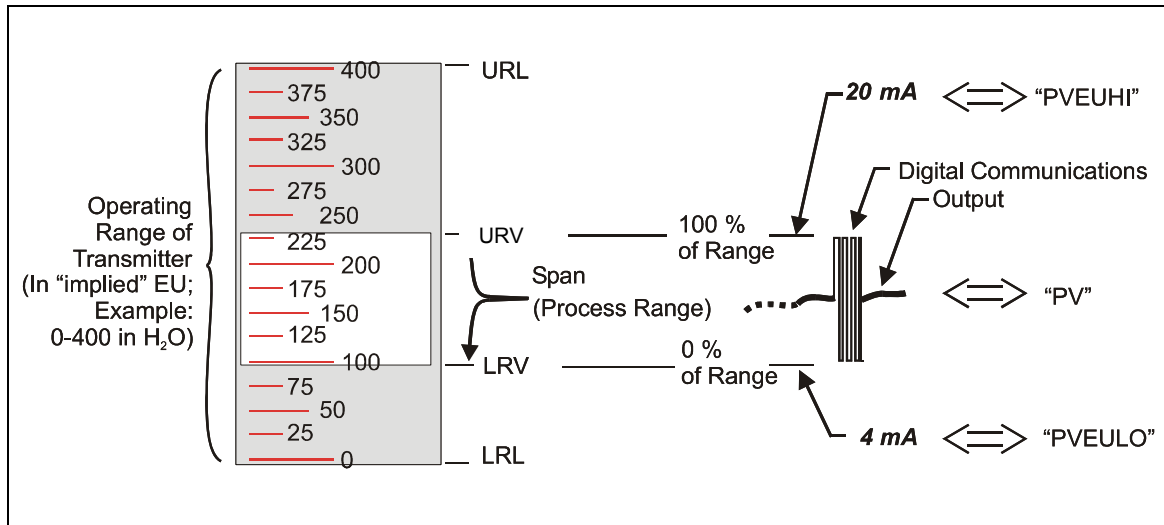

Figure 2-2 Honeywell Analog Value Scaling
As indicated at key number (4) in Figure 2-2, the Honeywell Smart Transmitter includes a path for digital communications between the sensor (via the microprocessor) and the 4-20 mA current loop that connects the transmitter to external communications devices such as process control equipment ("receiver") and/or to a MC Toolkit.
The diagram in Figure 2-2 provides an overview of a Honeywell transmitter operating in the analog mode.
The vertical scale at the left of Figure 2-2 is an example of the available range (LRL to URL) of a pressure transmitter sensor as built and characterized at the factory. The area of this scale that is highlighted in white represents the configured process operating range (LRV to URV) - in this case, from 100 in H₂O to 225 in H₂O.
Note that Engineering Units (EUs) shown in Figure 2-2 are included here only for reference. The transmitter does not perform any conversion of the base units' value to Engineering Units. All conversion to EUs is performed in the MC Toolkit and/or in other receiving devices such as operating panels associated with control equipment. Default conversion is to inches-H₂O @39°F.)
At the right of Figure 2-2, "PVEULO", "PV", and "PVEUHI" are examples of parameter names that appear on Honeywell control equipment, which are used as follows.
As indicated at the right of Figure 2-2, communications between the MC Toolkit and the Honeywell Smart Transmitter consist of digital pulse strings, with rapid transitions of current level between (approximately) 4 mA and 20 mA.